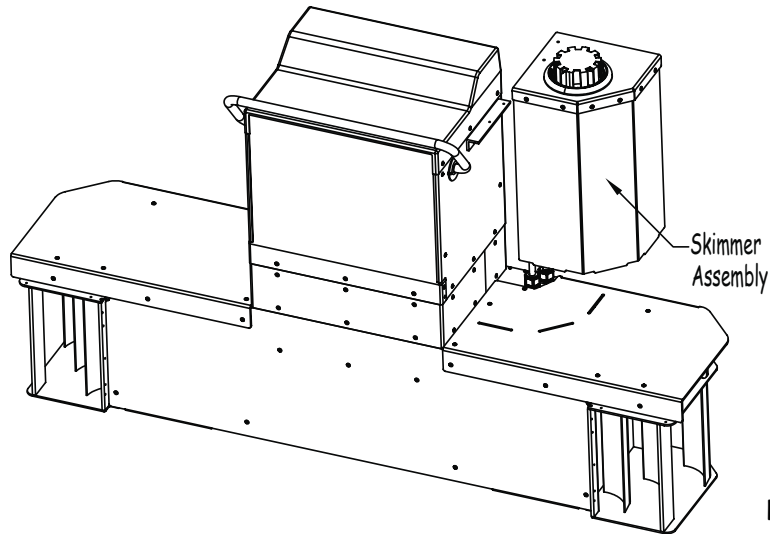

Fig 2
2. The skimmer assembly can be completely removed from the front base by removing the suction hose from the elbow that's attached to the suction thru-wall fitting (behind the skimmer assembly) (Fig 2).